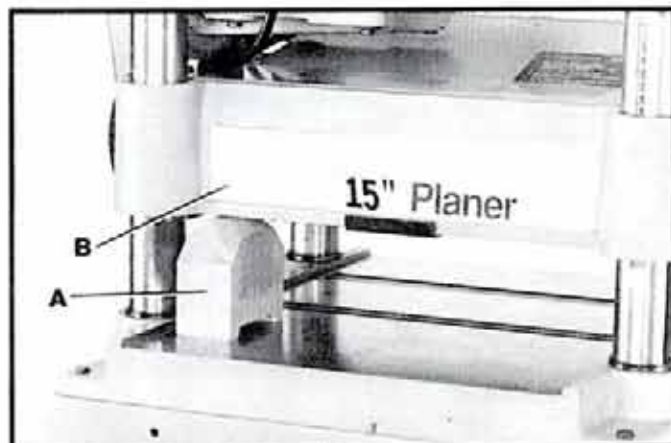

Fig. 45
2. Place gage block (A) Fig. 45, on table directly under front edge of head casting (B) as shown. Lower head casting until front edge of head casting (B) just touches the top of the gage block.